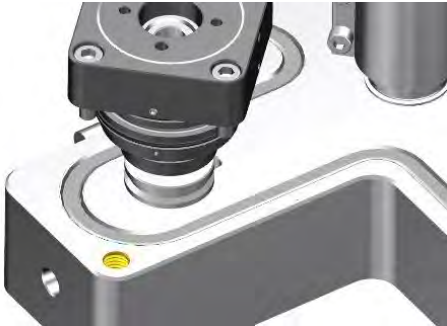

Figure 32: Transport thread on a hot runner
- 1) Prior to installing the hot runner, check the nozzle installation depth in your nozzle holding plate at three points at 120-degree intervals (the distance between the blue and the orange surface in Figure 32) and compare the value with the specifications in the corresponding installation instructions or the design drawing for your hot runner. Only continue if the measured value is within the specified tolerances.